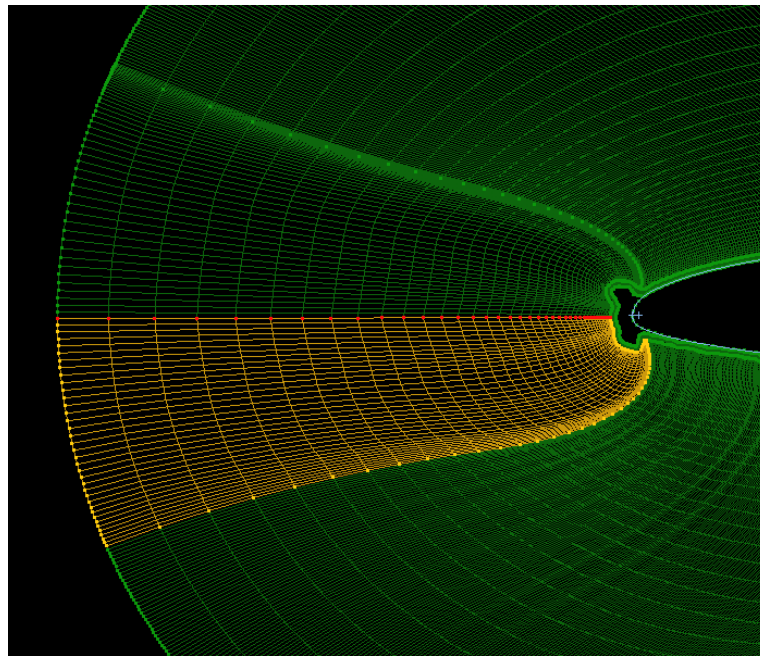

Figure 24. IMAX edge of block “near field\_003” selected.
- Select the entire IMAX edge of `near field_003`. This is the edge that extends directly out from the front of the iced airfoil. See Figure 24.